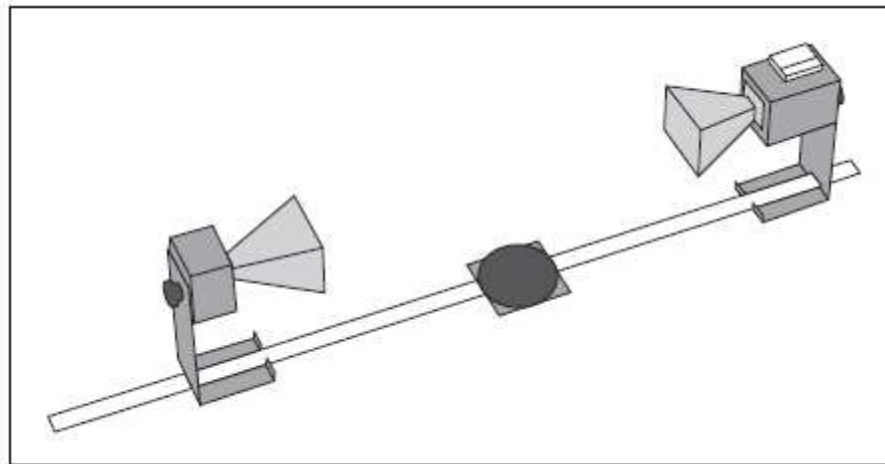

Figure 7.1: Equipment Setup
1. Set up the equipment as shown in Figure 7.1. Adjust the Receiver controls to get a full-scale meter reading with the Transmitter and Receiver as close together as possible. Slowly move the Receiver along the Goniometer arm, away from the Transmitter. *How does this motion effect the meter reading?* The microwave horns are not perfect collectors of microwave radiation. Instead, they act as partial reflectors, so that the radiation from the Transmitter reflects back and forth between the Transmitter and Reflector horns, diminishing in amplitude at each pass. However, if the distance between the Transmitter and Receiver diodes is equal to  $n\lambda/2$ , (where  $n$  is an integer and  $\lambda$  is the wavelength of the radiation) then all the multiply-reflected waves entering the Receiver horn will be
- 1- Arrange the equipment as shown in Figure 7.1 and adjust the Receiver controls for nearly full-scale meter deflection.